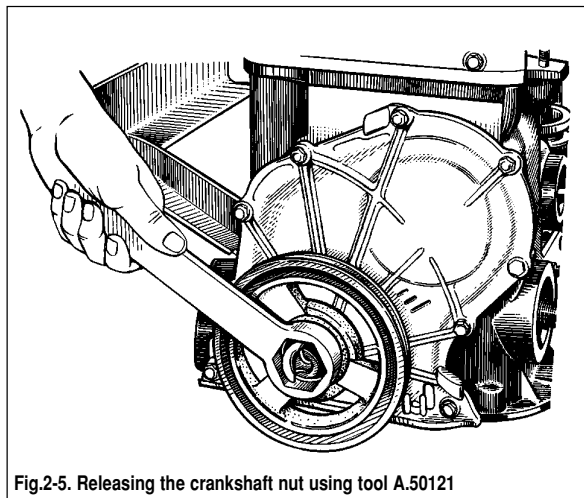
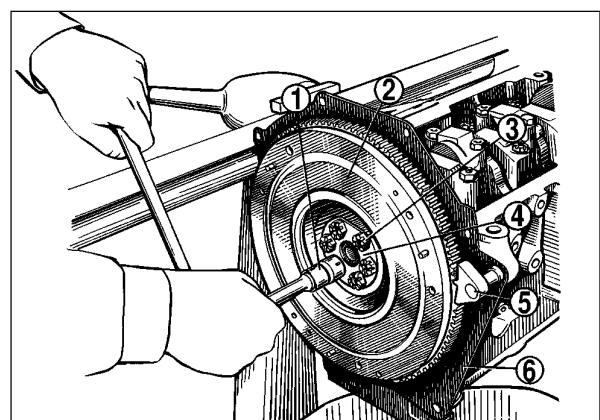

Fig.2-5. Releasing the crankshaft nut using tool A.50121
Fig.2-10. Removing the flywheel:
To remove the crankshaft pulley, secure the flywheel using A.60330/R (Fig. 2-10) and undo the nut using tool A.5012 (Fig. 2-5). Withdraw the valve cover and timing cover. Unbolt the
Fit tool 5 (Fig.2-10), undo bolts 3, remove washer 4 and the flywheel from the crankshaft. Remove the front clutch housing cover.
Locate front clutch housing cover 6 (Fig.2-10) over two centering pins (Fig. 2-16). Secure the cover to the rear oil seal housing with nuts.
- when the marks are aligned, hold the flywheel stationary with tool A.60330/R (Fig.2-10), then tighten the sprocket securing bolts and chain tensioner cap nut to the torques specified, bend the sprocket bolt lock washers; should the marks are not aligned, repeat the chain refitting procedure.